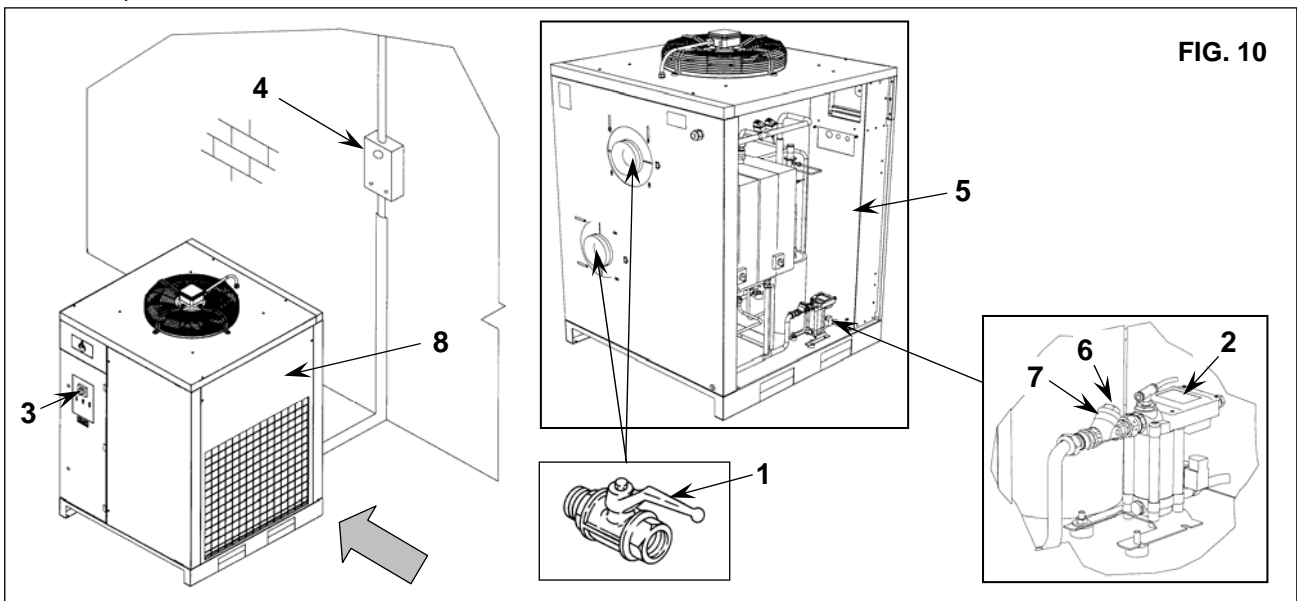

FIG. 10
15.2 CLEANING OF THE AUTOMATIC CONDENSATE DISCHARGER FILTER (Fig. 10)
- Close the cock Ref. 1 Fig. 10
- Remove the panel Ref. 5 Fig. 10
- Release the pressure in the dryer by pressing the condensate drain "TEST" pushbutton located on the steam trap Ref. 2 Fig. 10.
- Switch off the machine. Turn the switch in position STOP Ref. 3 Fig. 10
- Turn on the supply automatic differential switch Ref. 4 Fig. 10
15.3 CLEANING THE CONDENSER (Fig. 10)
- Remove the panel Ref. 8 Fig. 10
- Clean the condenser fins Ref. 1 with compressed air (Fig. 10) **DO NOT USE WATER OR SOLVENTS**
- Close the panel Ref. 8 Fig. 10